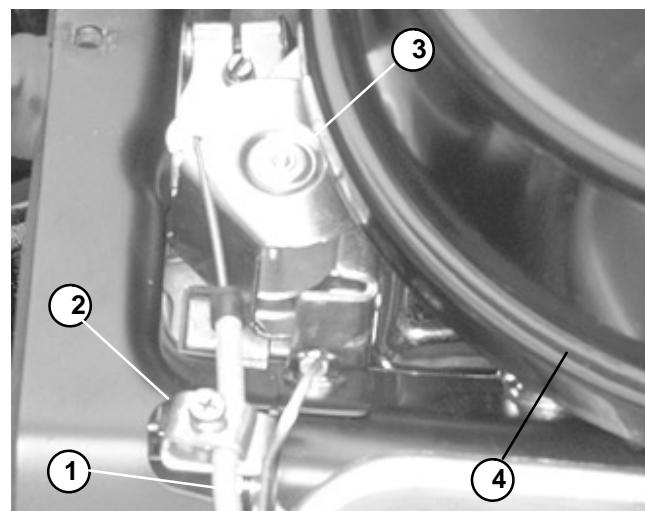

Figure 13
4. Release throttle cable from clamp securing it to the engine. Disconnect throttle cable from the swivel on the engine (Fig. 13).
- Connect throttle cable to the swivel on the engine. Attach cable to engine with clamp. Make sure not to tighten cap screw securing clamp and cable to engine (Fig. 13).